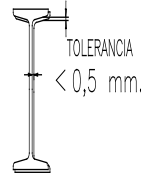
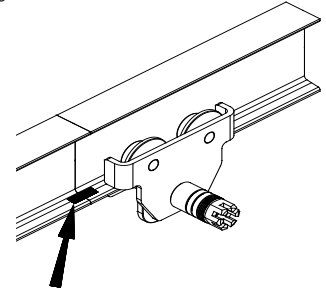

Figure 5
Figure 6
- The beams joint must be carried out with a maximum tolerance of 0.5 mm, vertical and horizontal (see figure 5), and the surfaces of the connections over which the trolley moves must be stone-treated for the purpose of levelling them (see figure 6).